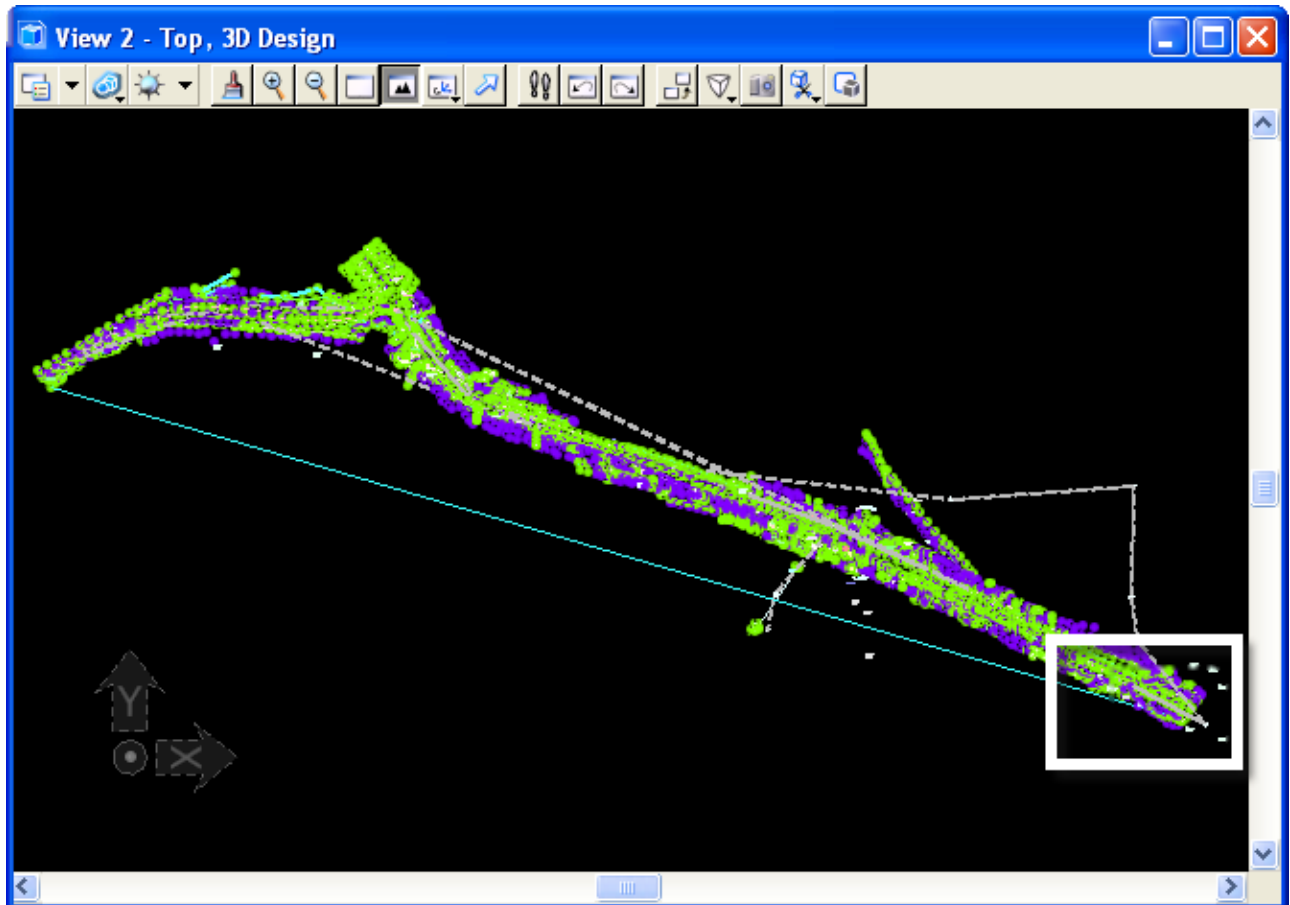

Figure 3-7 MicroStation View of needed window area
- D. The view shows a blue line from one end of the data to the other; this is not right. With the MicroStation Window tool, select the area in on the lower end of the line as shown in Figure 3-7.